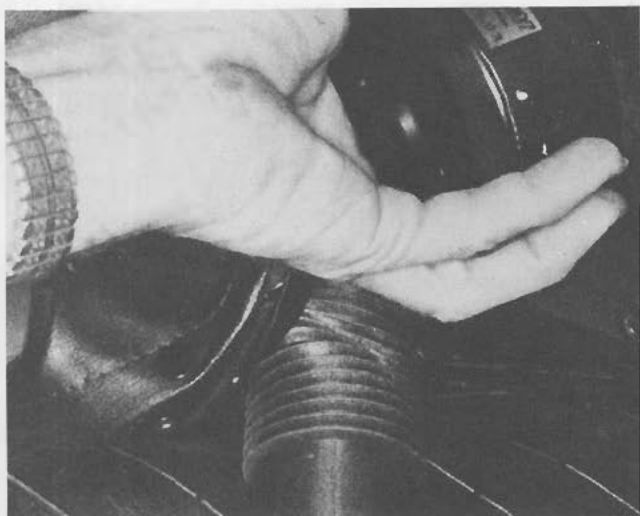

Figure III-3. Removal of Blower Motor/Fan Assembly
- b. Using a swivel-socket with extension, remove the three attaching screws from the blower motor mount flange and withdraw the blower motor assembly from the blower housing. (See Figure III-3.)